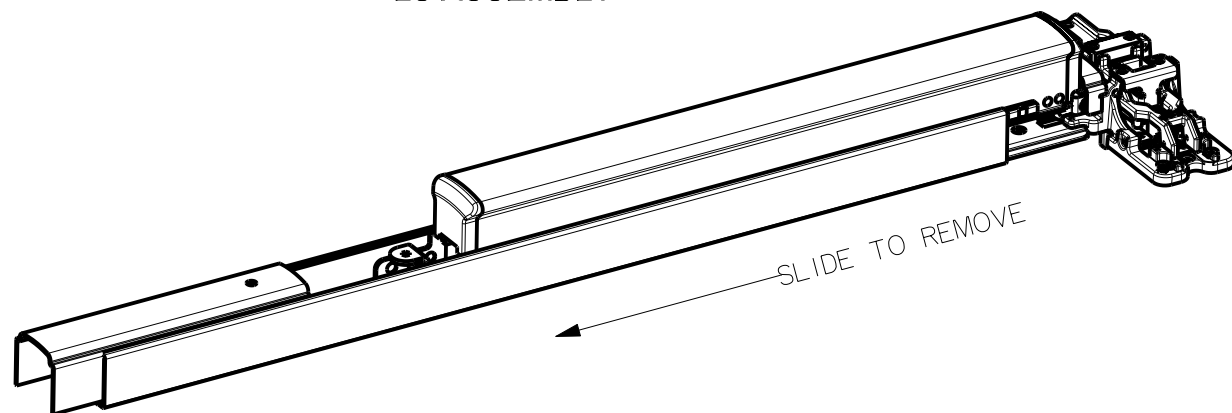
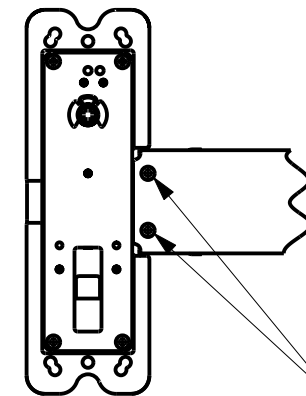
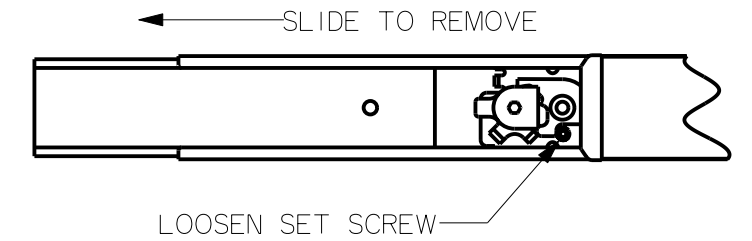

FIG. 3
FIG. 1
FIG. 2
- 1 - Remove the 2 channel screws (Fig. 1) Loosen set screw (FIG 2) and slide device channel away from chassis. (FIG. 3)